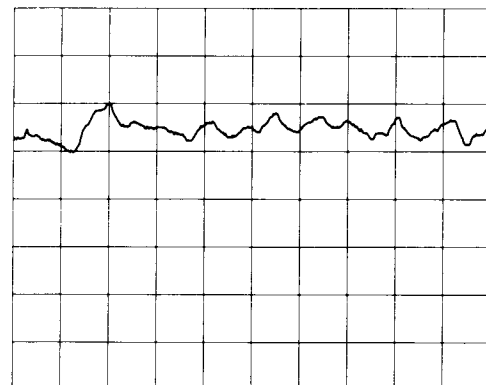

FIGURE 4-7. RESIDUAL FM DISPLAY
- 6. Slightly readjust spectrum analyzer FINE TUNING control until trace appears between fourth and seventh graticule lines. Peak-to-peak variation of trace should not exceed 1.4 vertical division for each horizontal division (see Figure 4-7).